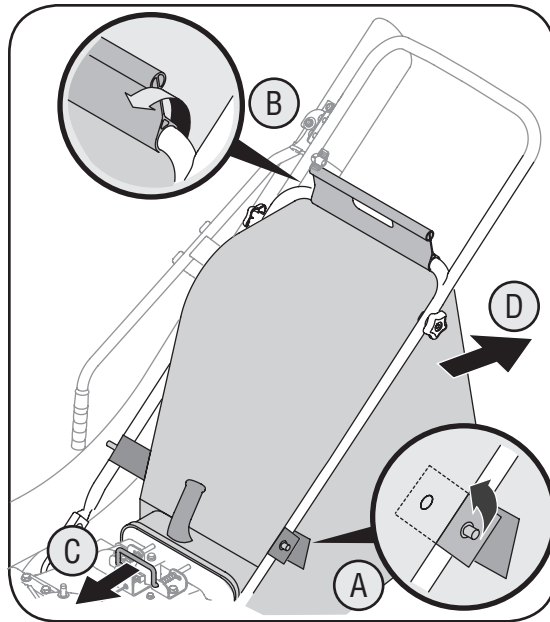

Figure 4-3
b. Unsnap bag clip from the top of lower handle. See Figure 4-3.